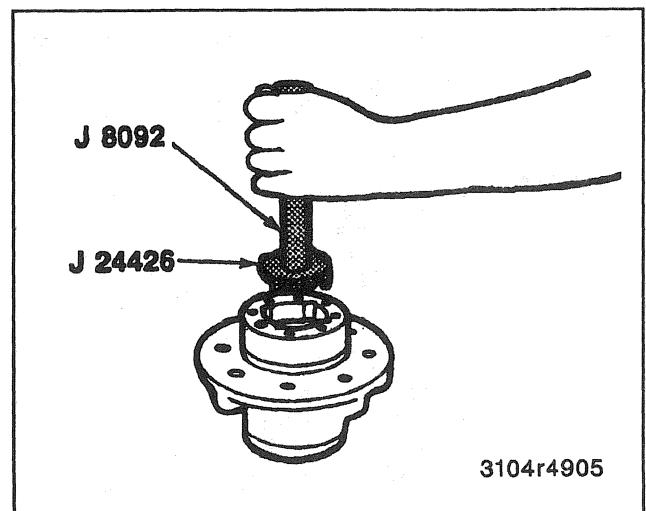

Figure 31—Seating Outer Bearing Cup Onto Retaining Ring
- Drive the cup back onto the retaining ring using J 24426 (Figure 31).